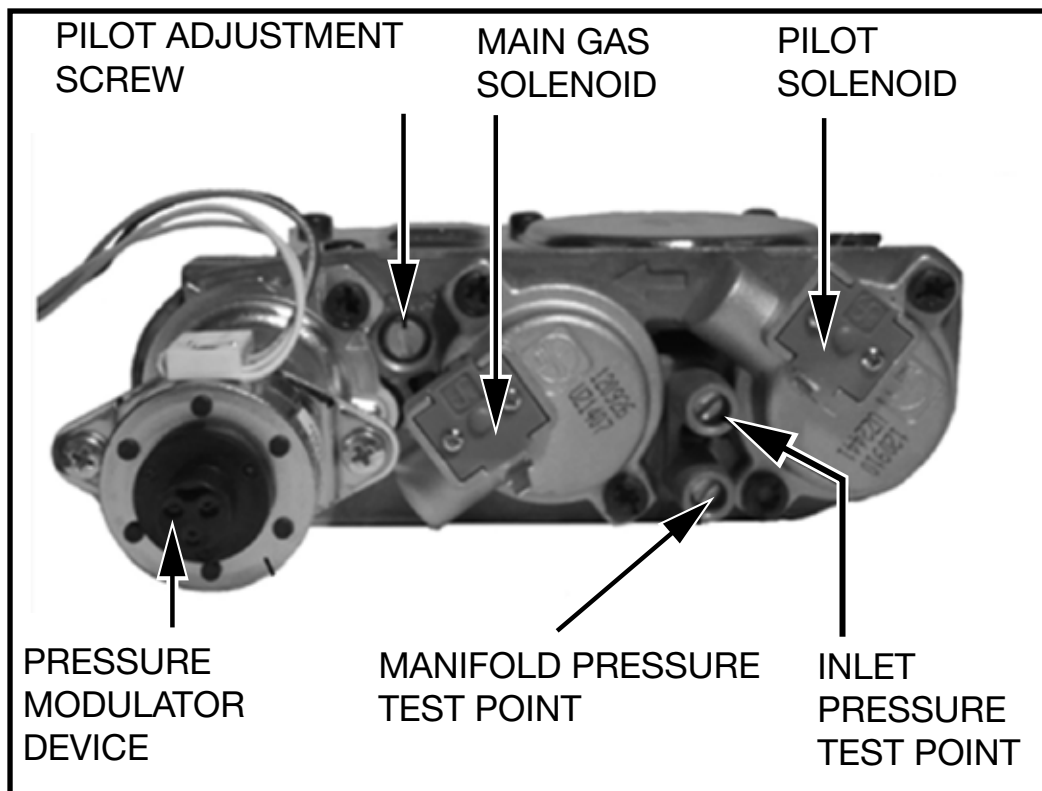

Figure 51: SIT gas control valve.
3. Locate the Inlet and Manifold test ports on the valve.(Figure 51). Using a screwdriver, loosen the screw in the port you want to test. Attach a tube, connected to a pressure gauge to the test port.